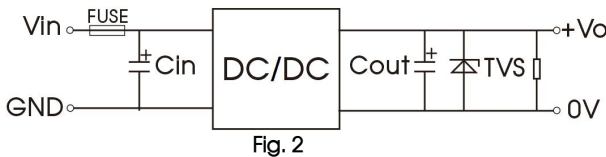

Fig. 2
- (1) During product testing and application, please follow the recommended test circuit (Figure 2); At least one electrolytic capacitor Cin ( $\geq 100\mu\text{F}$ ) is guaranteed to be connected externally to suppress the possible input surge voltage;
- (2) If the input terminal of the product is connected in parallel with a circuit with large transient energy (such as a parallel motor drive circuit), the input voltage of the product may be pulled down. At this time, pay attention to the fluctuation of the input voltage of the product, and it is recommended to appropriately increase the capacitance of the electrolytic capacitor Cin at the input terminal to ensure the stability of the input terminal voltage and avoid the situation where the input voltage is lower than the under-voltage protection point and cause the product to restart repeatedly;
- (3) If the output end of the product is inductive load (such as relay and motor), it is recommended to increase the output capacitance Cout capacitance within the capacitive load specification and add TVS tubes to filter out voltage spikes;
- (4) If the input and output ripple needs to be further reduced, Cin and Cout capacity of external capacitors can be appropriately increased or external capacitors with small series equivalent impedance can be selected. Cout capacity of external capacitors cannot be greater than the maximum capacitive load of products.